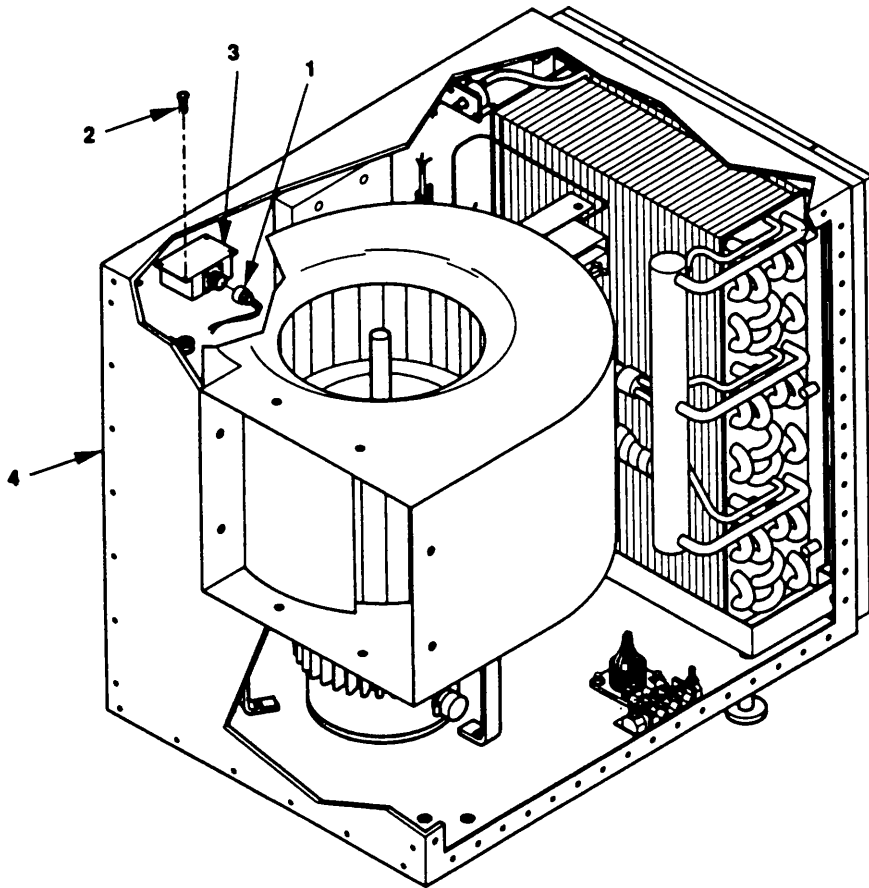

Figure 5-15. EMI Electronic Filter Replacement
- (1) Disconnect connector A106P2 (Figure 5-15, 1).
- (2) Remove four screws (2) and EMI electronic filter (3).